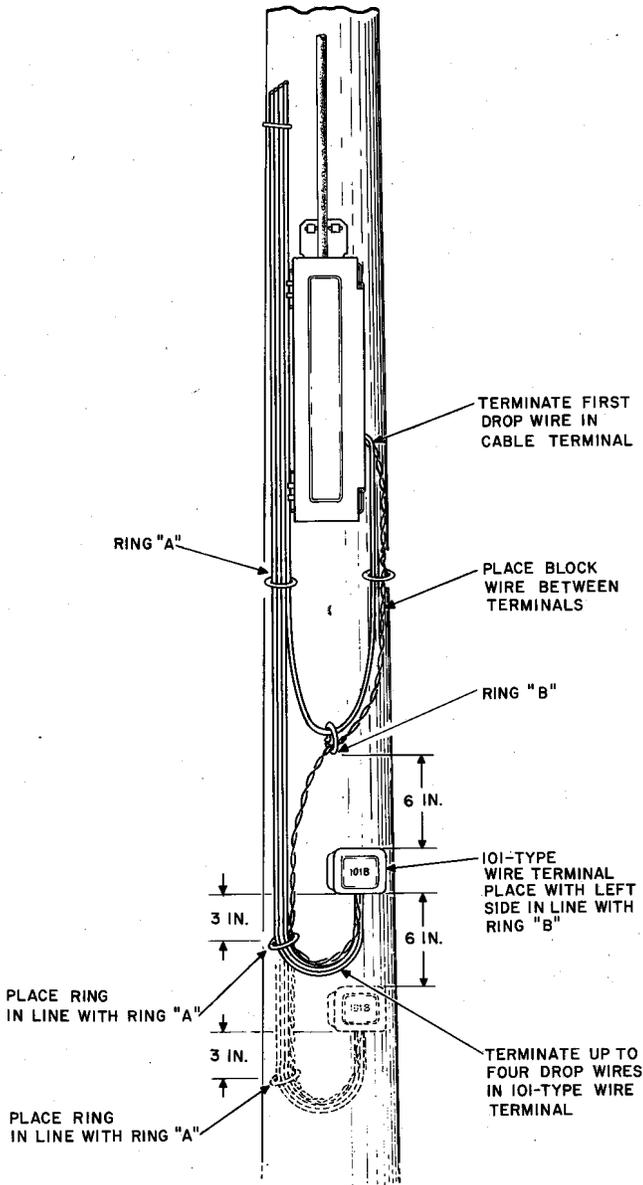

Fig. 26—Wiring 101-Type Terminal at Pole Mounted Cable Terminal
6.02 The 101-type wire terminal should be mounted on poles and walls as shown on Fig. 26, 27, 28, and 29.